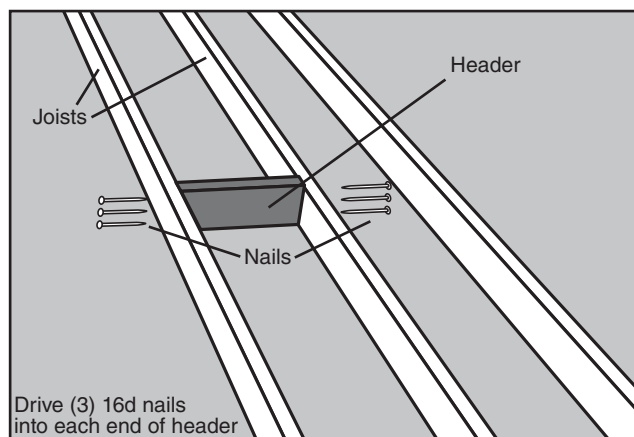

FIGURE 12
**STEP 3.** Place one of these headers at one end of your chosen location (See Figure 12). The header must fit snugly between the joists. Hammer it into position if necessary; if it is more than 1/16" too long, trim it. If it is more than 1/16" too short, cut another piece.
**STEP 4.** Square the header to one joist and drive (3) 16d nails through the joist and into the header. Check for squareness and drive (3) 16d nails through the other joist and into the header (See Figure 12).